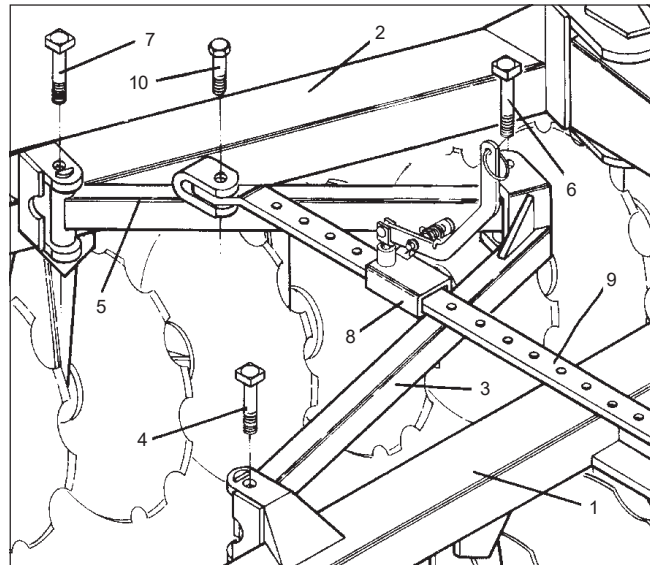

FIGURE 08
15 - Place the pull handle item 8, on right stabilizer bar, passing the strip lock adjustment item 9, by the inner of the handle lock body, joining it to the rear stabilizer bar through the bolt item 10, **as show in Figure 08.**